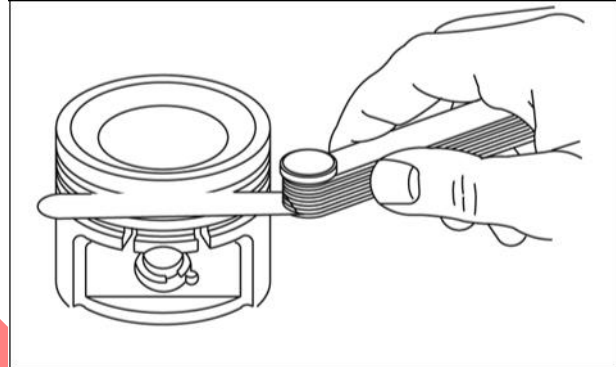

Figure 3
1. Check side clearance of ring grooves using NEW rings (A, Figure 3). If a 0.0045 in. (0.11 mm) feeler gauge can be inserted, the ring groove is worn. The piston must be replaced.